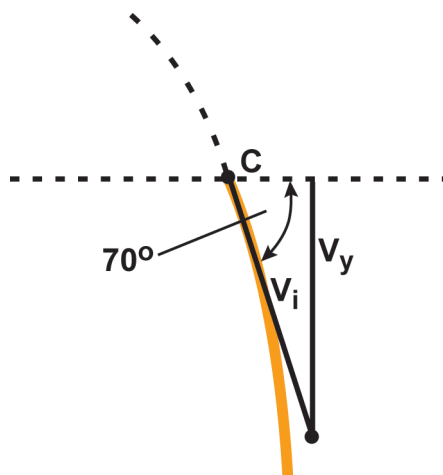

Figure 16
- ☐ 4. At point C the angle of the velocity will be the same as the angle at the projectile apparatus. Because of the angle of the projectile velocity at point C, the vertical component is the one to use in the equation. See Figure 16.